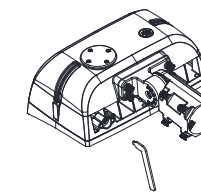

figure 7.4
- Step 1: Take the lamp out of the packing box, take out the handle configured in the packing box, and insert it into the slot of the knob. (figure 7.4)